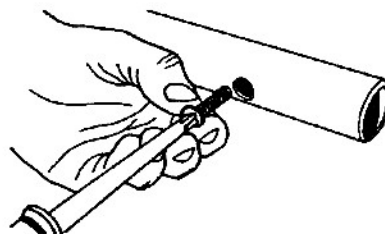

Fig. A-10
14. For the fence tube on the infeed side of the table, place a medium Phillips screwdriver in the head of a Phillips screw (394), as illustrated in Fig. A-10.